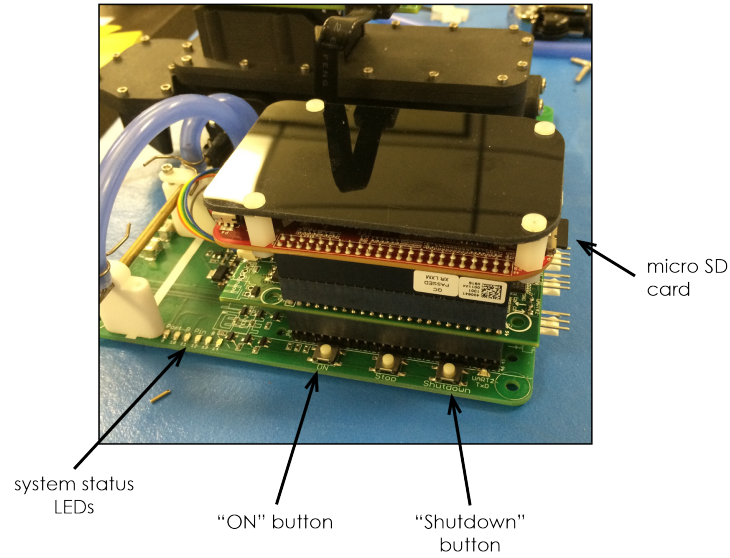

Figure 6. Locations of the micro SD card (inserted into slot on POPS Computer (red board), power on and shutdown buttons, and system status LEDs.
**Non-balloon versions:** To begin sampling, first verify the POPS inlet is not obstructed and the micro-SD card is fully inserted into the POPS Computer, then plug in the instrument or connect the battery terminals. Press and hold the "ON" button (see Figure 6) on the POPS Baseplate for about 1-2 seconds, or until the LEDs on the Baseplate illuminate. The pump should begin operating within a minute and quickly settle on a steady operating speed to maintain a constant sample flow rate. After another minute the POPS data acquisition software will automatically load the current configuration, begin acquiring and saving particle data to file and send housekeeping and binned data via UDP and various serial protocols to any connected external systems.
Never disconnect power from the instrument before first safely shutting down the system or the POPS Computer can become corrupted. To shut down the system safely press and hold the “Shutdown” button (shown in Figure 6) until the system powers down. It can take the system several seconds to recognize the shutdown command. When the system has shut down the pump will turn off and the system status LEDs will no longer be illuminated. It is now safe to remove the AC-DC power supply and/or battery module connections.